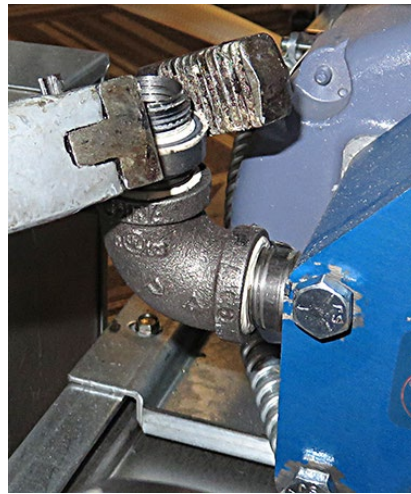

Figure 18
21. Remove the check valve fittings and the 90° elbow from the filter pump (see Figures 18 and 19). It may be necessary to loosen all four (4) filter pump bolts, to ease removal of the elbow and check valve fittings. When finished, retighten the bolts, but do **NOT** overtighten.